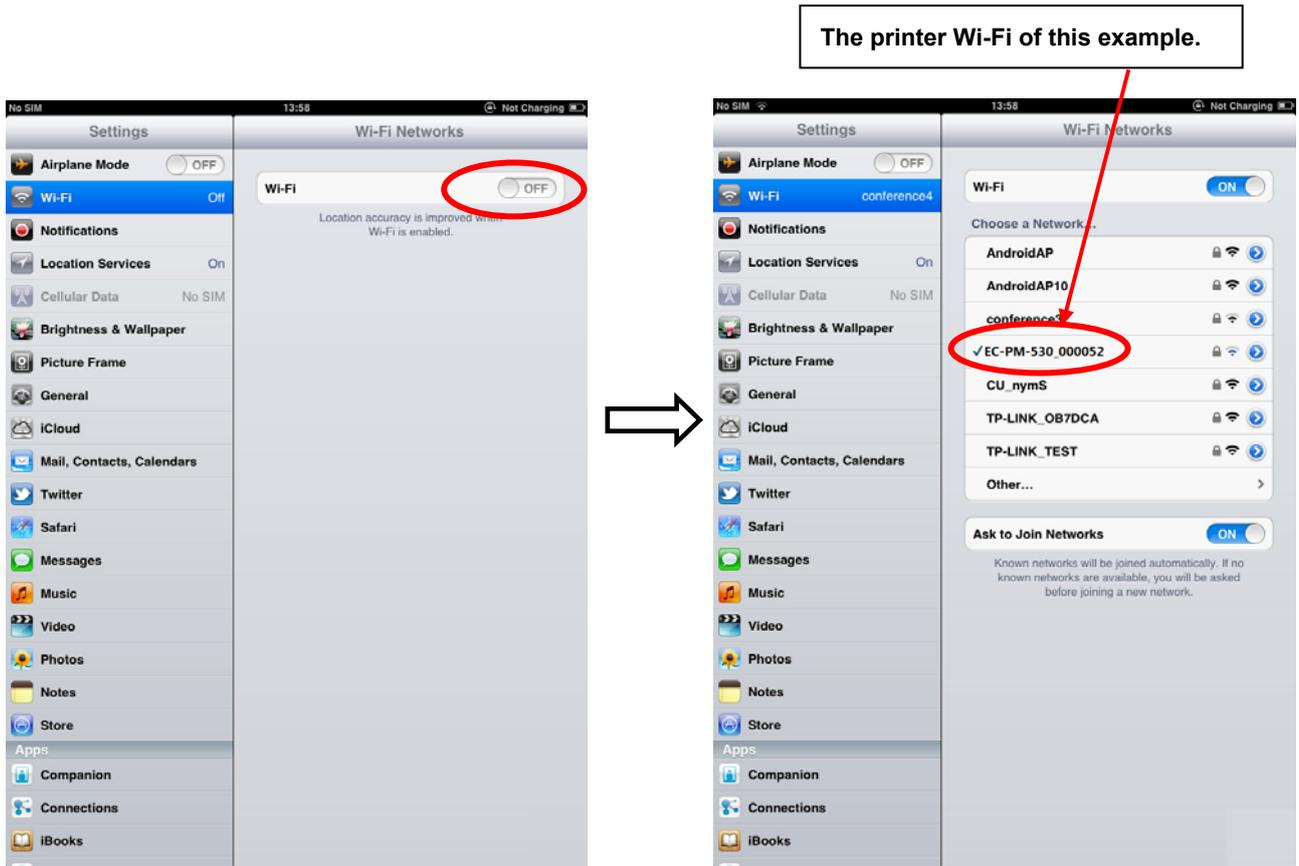

Figure 3
2. Click "Settings" and the interface pops up. Select the "WLAN" function to "ON", then click the printer Wi-Fi searched by the mobile phone to connect. The printer Wi-Fi default name is composed by "the printer model+6 numbers and letters" (as shown in Figure 3).